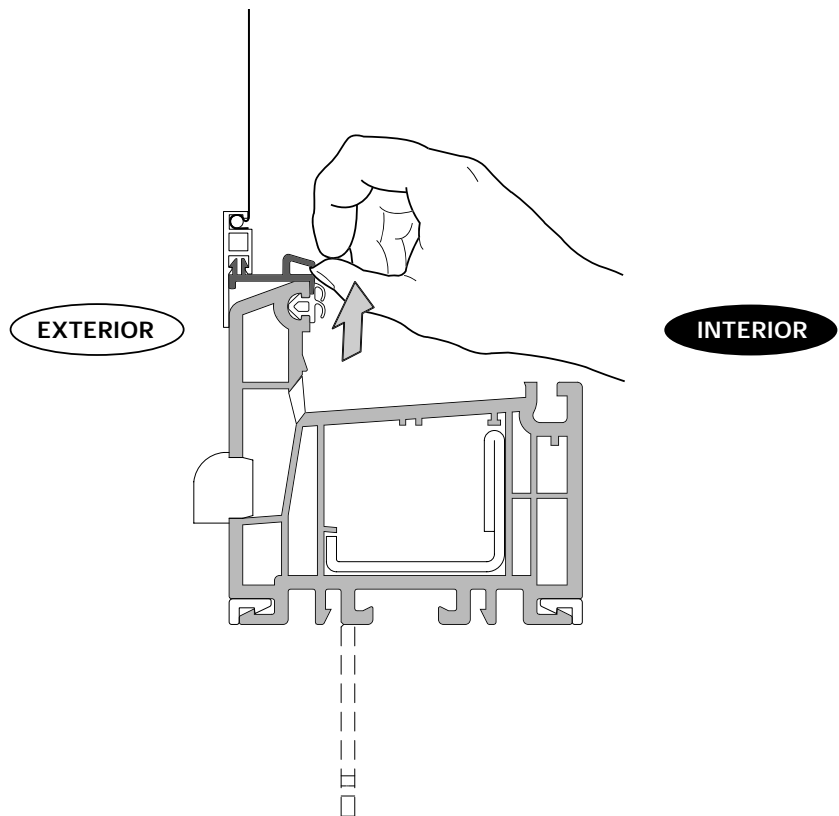

Figure 6-6.Release clip from window frame
2. Holding the pull-tab with your right hand, pull on the clip handles (figure 6-6) to release the clips at the head and push outward a 1/4 inch (6 mm) on the screen so as to keep the clips from re-setting themselves.